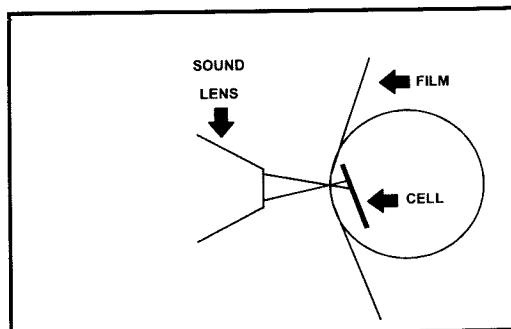

Figure 4: Cell position
2. Adjust the triggering and timebase of the oscilloscope to give traces similar to Figure. 4. Move the cell in and out laterally across the film plane until the cross-talk is at a minimum on both channels as shown in Figure. 4. It may be necessary to roughly set the gain of the pre-amp at this time. When satisfactory results are attained lock-off the cell adjustment, taking care not to disturb the setting in the process.